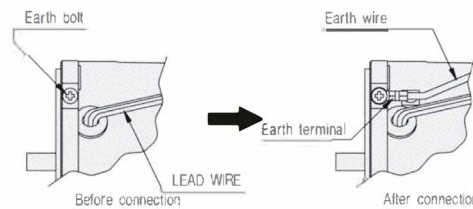

Figure 8
6.1.1 A Motor containing a Protective Earth (PE)
- Figure 8 below shows the grounding method for the terminal box motor of the 60mm frame size motor (3w, 6w) and the 70mm frame size motor (15w), for which the flat head holt (PE holt) is on the side.